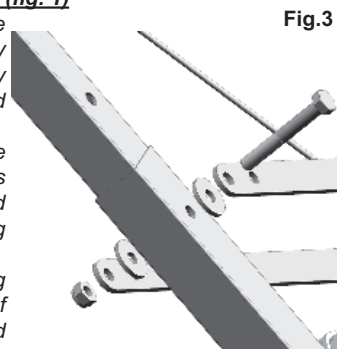

Fig.3
2) The maximum working height (30m) is the position of the pulley axis (ref.6) located at the top of the extensible arm (ref.16).
3) Install the tie rods (ref.8) by connecting them to the frame (ref.7) and the extensible arm (ref.16) using the appropriate screws and nuts in the attachment housings. Install the D=12x36x4 mm washers as shown in figure 3. Tighten the nuts. Make sure that the electrical cable of the up limit switch (which runs from the electrical panel to the base of the extensible arm near the hinge with the frame) is not pinched or trapped by any mechanical component.